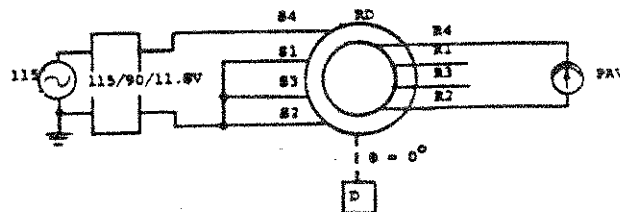

Figure 7-26. Phase Shift Test (RD/RC)
- a. Set up equipment as shown in figure 7-26.